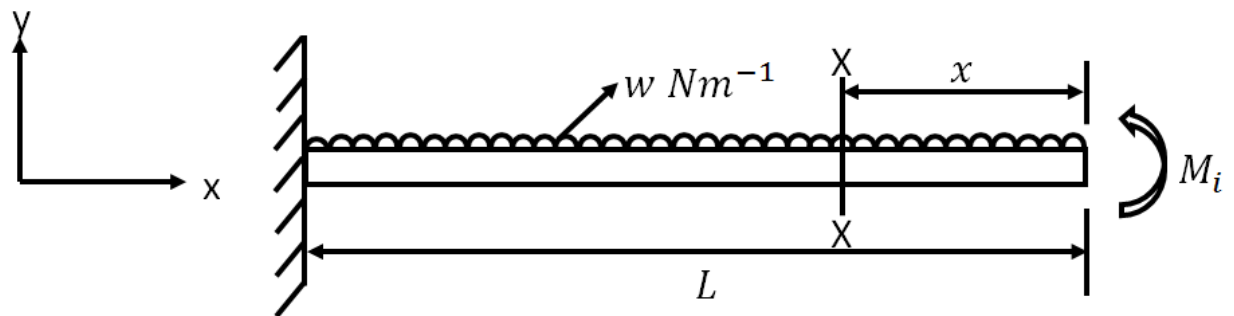

Fig. Q 5 (b)
- b) Derive the equation for the slope at the free end of a cantilever carrying a uniformly distributed load over its full length as shown in Fig. Q 5 (b) using Castigliano's theorem. (6 marks)